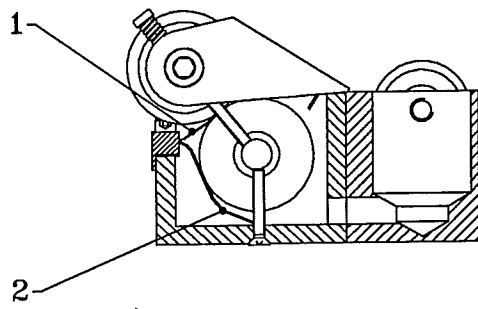

Figure 29 : Position of the ink scrapers
6.8.2 Checking the running bands (see figure 29)